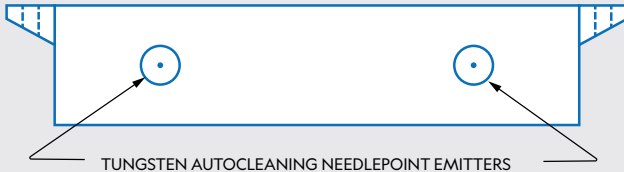

FIGURE 1
1. Included with the ionization unit is a mounting kit containing (4) self-tapping screws, (2) magnetic strips to hold the unit in place and 6ft of 22ga power leads.
3. Mount the unit at or near the fan inlet using the slots in the mounting tabs, insuring that air flows over the two needlepoint emitters simultaneously. Mount the ionizer to the fan casing to avoid interference with the fan blades. See Figures 1 & 2.